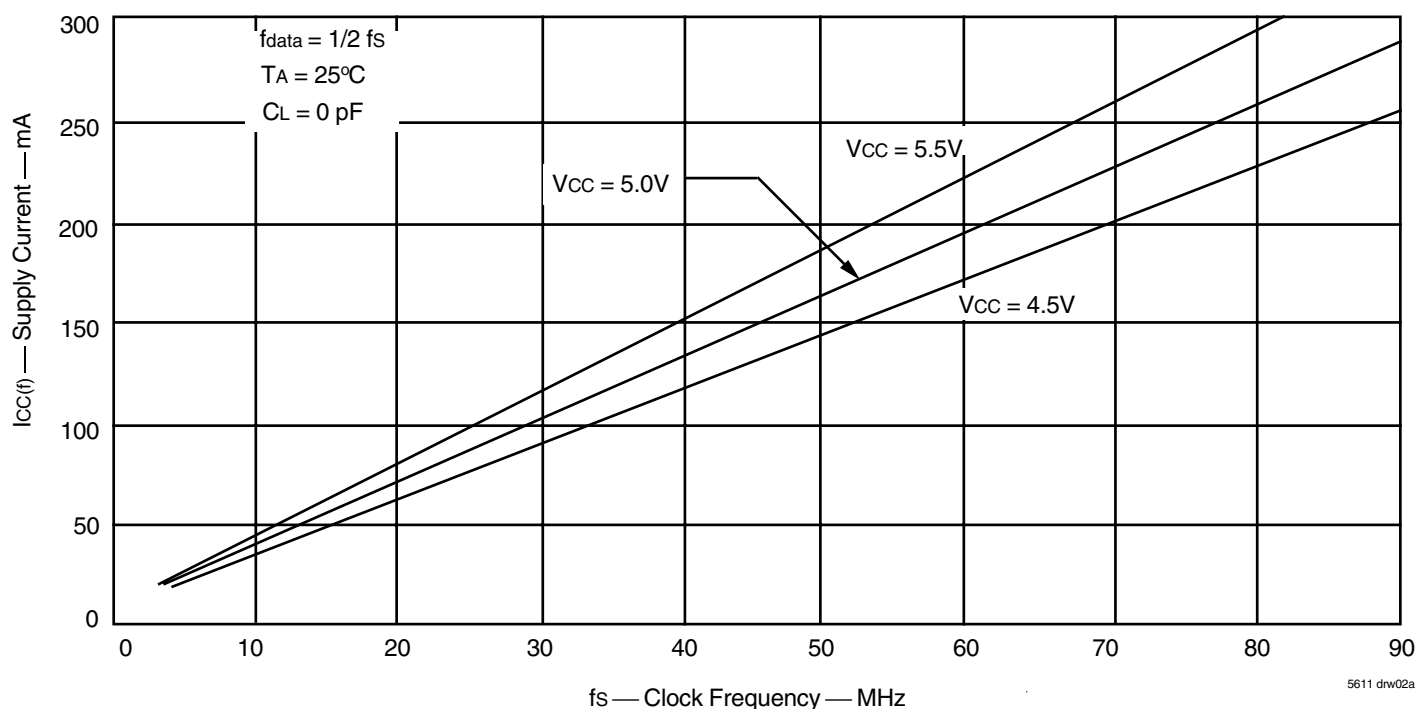

Figure 1. Typical Characteristics: Supply Current (I_{CC}) vs. Clock Frequency (f_s)
- For additional I_{CC} information, see Figure 1, Typical Characteristics: Supply Current (I_{CC}) vs. Clock Frequency (fs).
The $I_{CC}(f)$ current for the graph in Figure 1 was taken while simultaneously reading and writing a FIFO on the IDT723656/723666/723676 with CLKA, CLKB and CLKC set to f_s . All data inputs and data outputs change state during each clock cycle to consume the highest supply current. Data outputs were disconnected to normalize the graph to a zero capacitance load. Once the capacitance load per data-output channel and the number of these device's inputs driven by TTL HIGH levels are known, the power dissipation can be calculated with the equation below.
With $I_{CC}(f)$ taken from Figure 1, the maximum power dissipation (P_T) of these FIFOs may be calculated by: